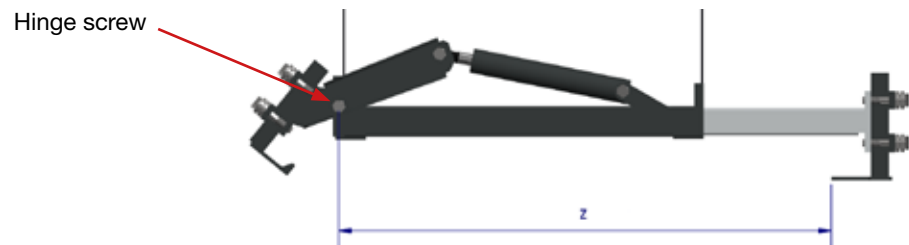

Fig. 15. Adjusting the gripper range: Adjust the measurement on the gripper arm
7. Transfer the measured value "Z" to a gripper arm (see Fig. 15): The measurement is taken from the leading edge of the fixed side of the jaw to the center of the hinge screw.